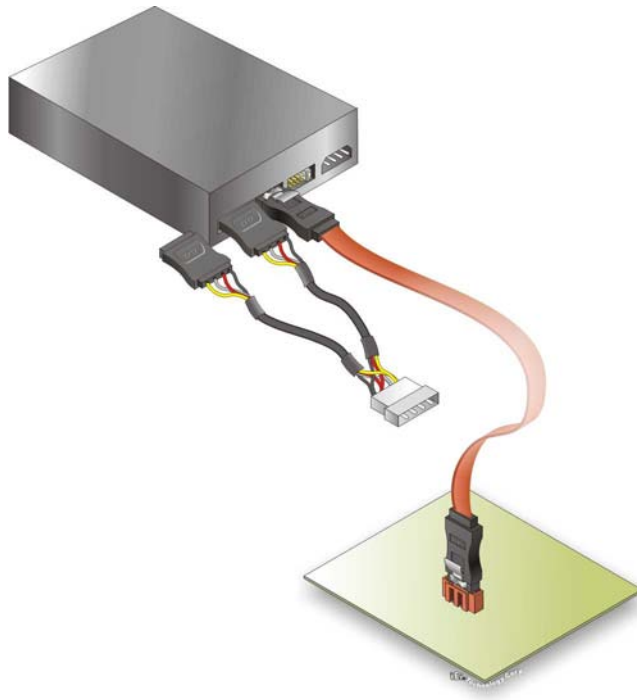

Figure 4-15: SATA Power Drive Connection
- Step 3:** **Connect the cable to the SATA disk.** Connect the connector on the other end of the cable to the connector at the back of the SATA drive. See **Figure 4-15**.
- Step 4:** **Connect the SATA power cable.** Connect the SATA power connector to the back of the SATA drive. See **Figure 4-15**.